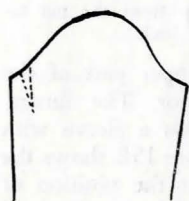

FIG. 17.—Fitting sleeve for large arm with small armscye.
5. Large arm with a small armscye.—The flesh on the arm is low and requires additional width in the sleeve above the elbow, but not at the top nor at the armscye. Fit the armscye as usual and before placing the sleeve in the armscye take a small dart in the under edge of the sleeve near the seam (Fig. 17). This will take care of the extra fullness at the top of the sleeve and give a better appearance than attempting to ease the extra fullness in the sleeve cap.